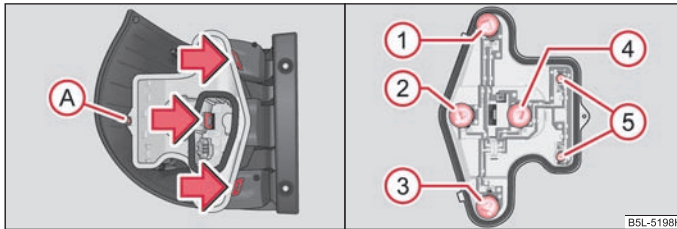

Fig. 200 Remove the middle part of the light/rear light unit: Fitting position of the bulbs
- Unscrew the securing screw (A) with the aid of the Torx wrench and press the three catches in direction of arrow ⇒ fig. 200.
- In order to replace a bulb for the brake light, reversing light, rear fog or turn signal light, turn the fixture of the bulb to the left up to the stop and take the bulb out of the housing or pull the bulb for the parking light out of the fixture ⇒ fig. 200.
- Insert the plastic lamp holder into the illumination unit until the interlocks are heard to engage and screw in the securing screw with the aid of the Torx wrench ⇒ fig. 200.
Fitting position of the light bulbs in the rear light unit ⇒ fig. 200